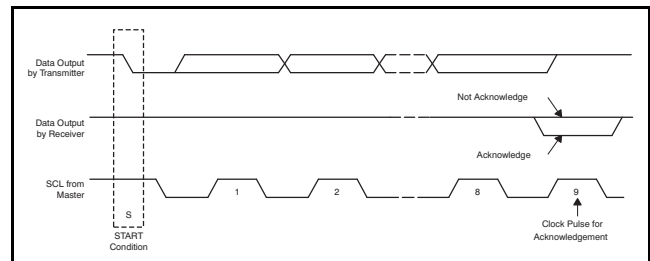
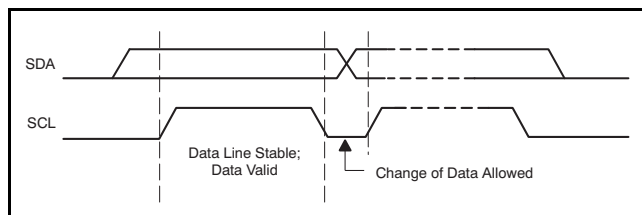

Figure 90. Acknowledge and Not Acknowledge on the I²C Bus
Figure 91. Bit Transfer on the I²C Bus
Other than specific timing signals, the I²C interface works with serial bytes. At the end of each byte, a 9th clock cycle is used to generate/detect an acknowledge signal. *Acknowledge* is when the SDA line is pulled low during the high period of the 9th clock cycle. A *not-acknowledge* is when the SDA line is left high during the high period of the 9th clock cycle as shown in Figure 90.
- The *master* initiates data transfer by generating a *start condition*. The *start condition* is when a high-to-low transition occurs on the SDA line while SCL is high, as shown in Figure 90. All I²C-compatible devices recognize a start condition.
- The master then generates the SCL pulses, and transmits the 7-bit address and the *read/write direction bit* (R/W) on the SDA line. During all transmissions, the master ensures that data is *valid*. A *valid* data condition requires the SDA line to be stable during the entire high period of the clock pulse, as shown in Figure 91. All devices recognize the address sent by the master and compare it to their internal fixed addresses. Only the slave device with a matching address generates an *acknowledge* by pulling the SDA line low during the entire high period of the ninth SCL cycle, as shown in Figure 90 by pulling the SDA line low during the entire high period of the 9th SCL cycle. Upon detecting this acknowledge, the master knows the communication link with a slave has been established.